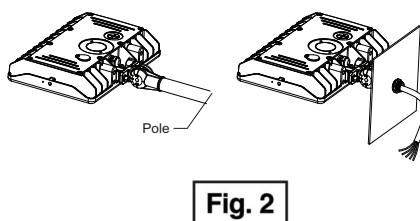

Fig. 2
- 3.) Insert the ½" threaded nipple into the mounting surface (pole, junction box, etc.). Ensure that it is secure by either screwing it into the mounting surface or with the supplied nut (**Fig. 2**).